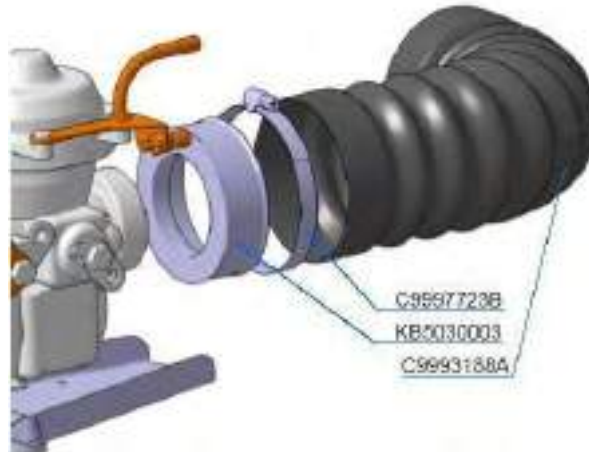
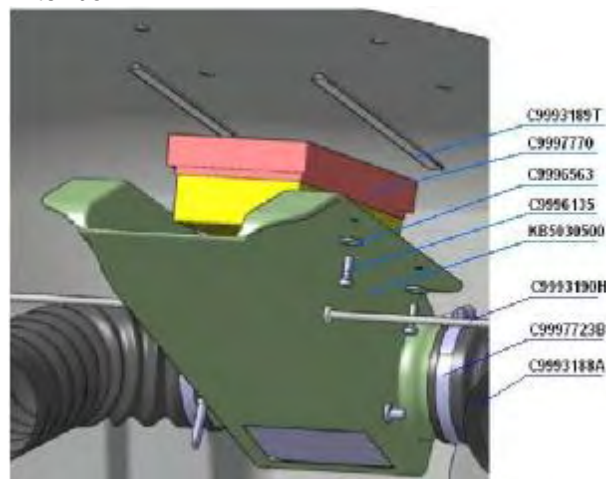

Fig. 2
Fig. 3
- Unscrew the bolt by cross-screwdriver or wrench with header 7. Release the clamp C9997723B (Clamp 60-80) by a screwdriver and disconnect the hose C9993188A (AERODUCT tube CEET-12 3 ID) from KB5030003 (Transitional bush) located near the carburetor (Fig. 2). Repeat for the hose from the other side of KB5030500 (Air filter box), Fig. 3.
- Unscrew the four bolts C9996135 (Bolt DIN 7984-M5x16-8.8) by a hex-nut wrench 4. Fig. 3.
- Unscrew the bolt by cross-screwdriver or wrench with header 7. Release the clamp C9997723B (Clamp 60-80) with a screwdriver and disconnect the hose C9993188A (AERODUCT tube CEET-12 3 ID) from KB5030500 Air filter box. (Fig. 3).
- Repeat item 1 for the second carburetor.
- When the handle is pushed (Fig. 4, a) the choke of KB5030500 Air filter box (Fig. 3) in OFF position.